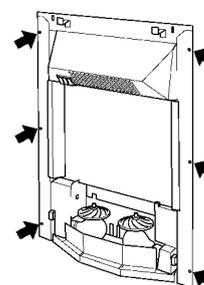

Figure 6
- If necessary, the heater can be additionally secured by screws through the side flanges – see figure 6.